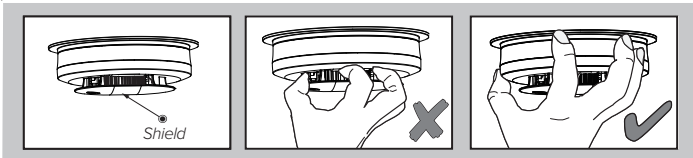

Figure 9-B
**NOTE:** Do not grab the shield to install or remove the alarm. Grab the alarm by the outside of the enclosure. (Figure 9-B).